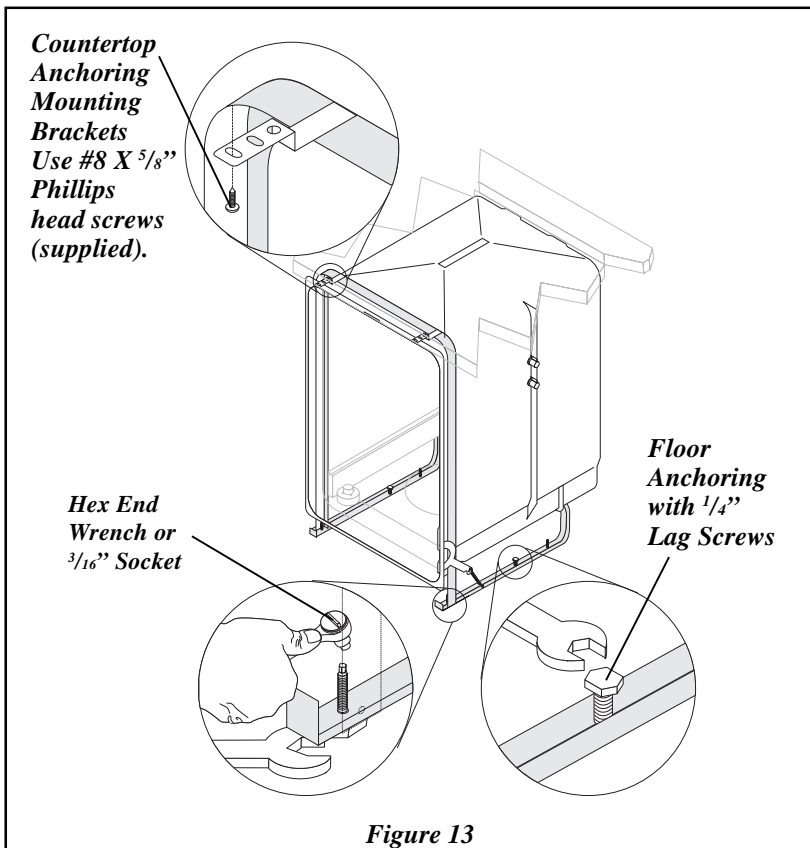

Figure 13
1. Adjust levelers (see Step 5) so mounting brackets touch underside of countertop. **IMPORTANT:** Dishwasher must rest on floor—do not hang from countertop. See Figure 13.
1. Screw $\frac{1}{2}$ " lag screws, not included, through holes provided in frame rail. See Figure 13.